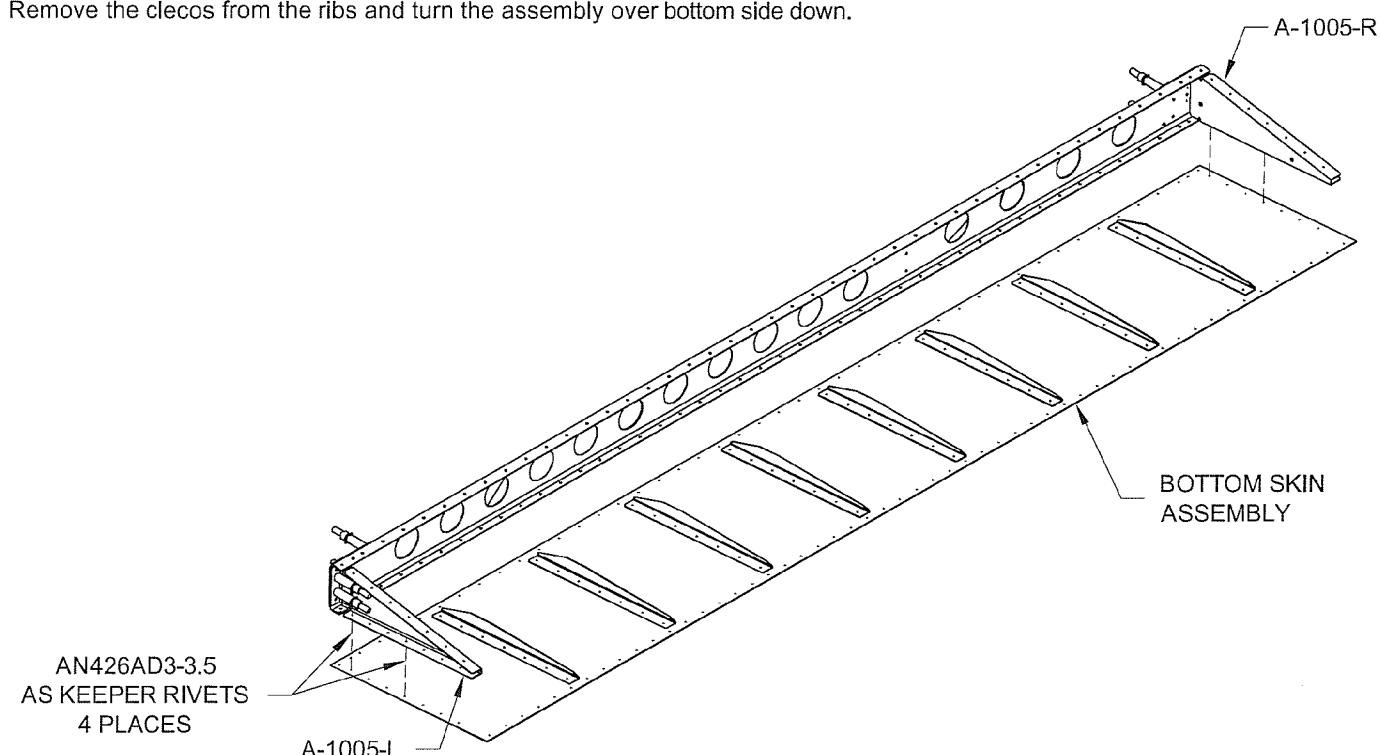

FIGURE 1: TEMPORARY ATTACHMENT OF THE BOTTOM SKIN ASSEMBLY
Step 1: Cleco the bottom skin assembly to the spar/ main rib assembly as shown in Figure 1. Final-Drill #40 the holes common to the bottom skin assembly and the A-1005-L and -R Main Ribs. Remove the bottom skin assembly. Deburr and dimple the main ribs and A-1002 Bottom Skin. A low profile dimple die is necessary for reaching the aft most rivets in the main rib to skin attach flanges. Fabricate a female die by drilling and countersinking a thin steel bar such as a splitting wedge.
Step 2: Rivet the bottom skin assembly to both A-1005-L and -R Main Ribs with only two "keeper" (temporary) rivets per rib as shown in Figure 1. Do this at the second and fifth holes from the forward edge of the A-1002 Bottom Skin. Just partially set these rivets since they will be drilled out later. The keeper rivets will eliminate the need for clecos and allow the aileron to lie flat while the upper surface is being drilled.